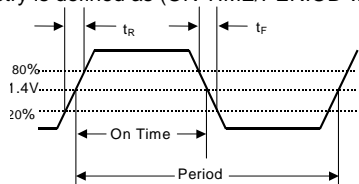
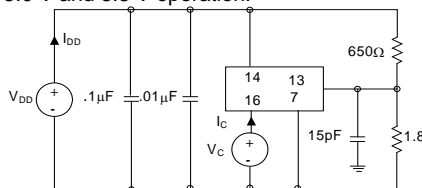

Figure 2. Output Waveform
Figure 3. OUT1, OUT2, RCLK, RDATA
2. Figure 2 defines these parameters. Figure 3 illustrates the equivalent five gate TTL load and operating conditions under which these parameters are tested and specified. Loads greater than 15 pF will adversely effect rise/fall time as well as symmetry.